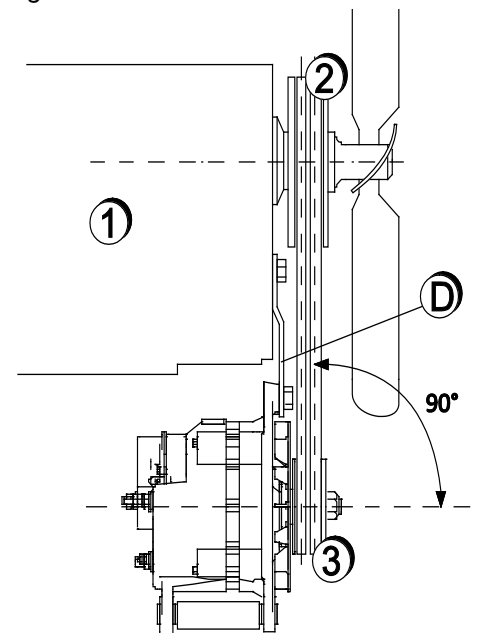

Figure 6: Alignment
- 3 See Figure 6. Align the alternator pulley (3) with the engine (1) drive pulley (2) and tighten the bracket mounting bolts, securing the mounting bracket (4) to the engine.